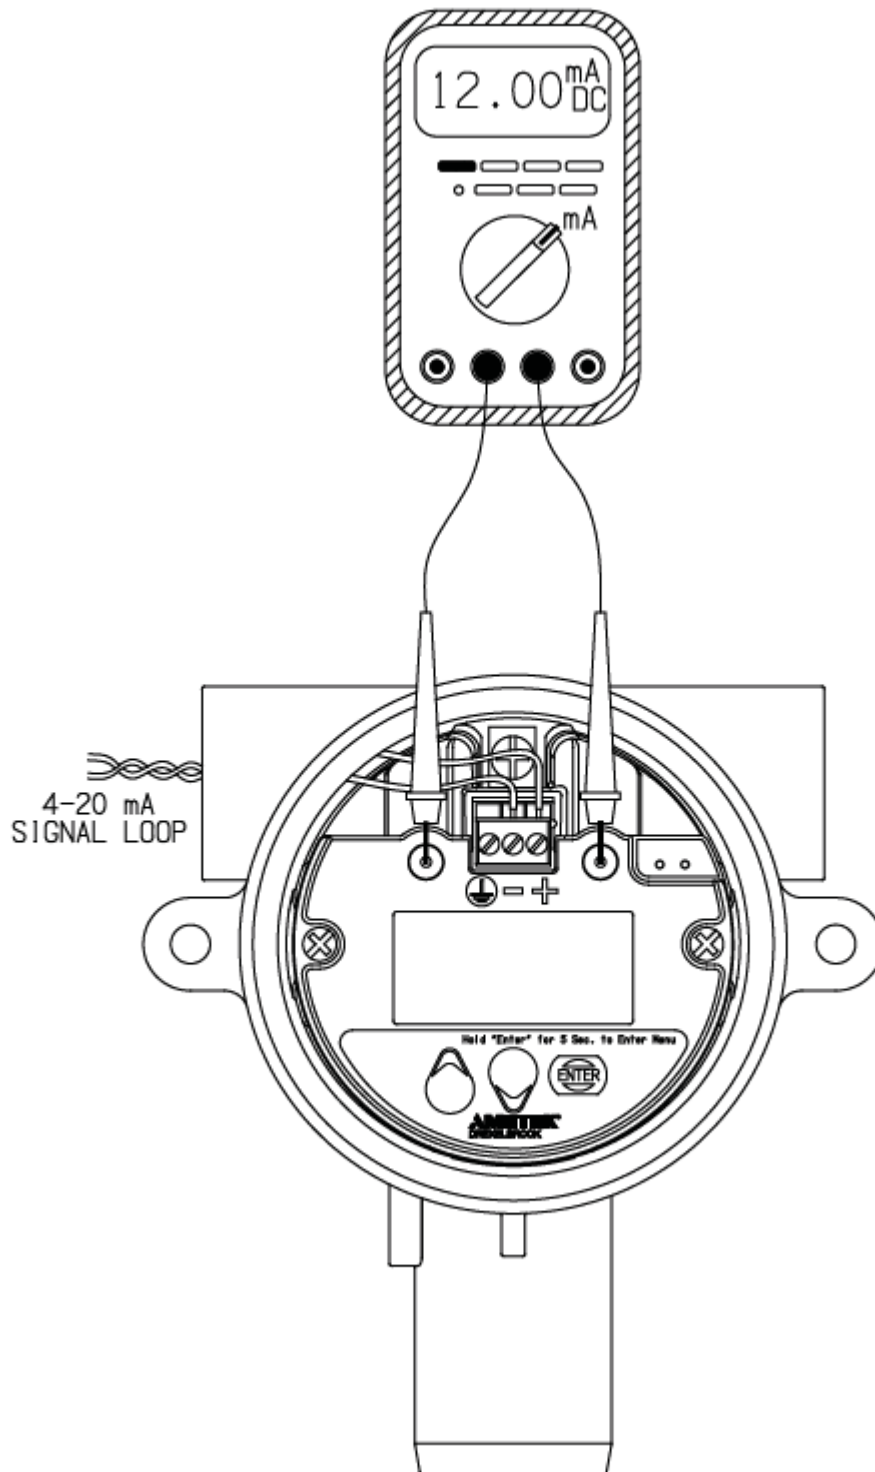

Figure 7-2
3. Observe the loop current See "Figure 7-2" on page 46 over a 12-hour period to confirm the stability of the unit. If the readings remain stable for this period, then the problem is not in the transmitter. If the loop current has changed more than 1% during the test period, then the unit is defective. Please contact the Service department for further instructions regarding repair or replacement.